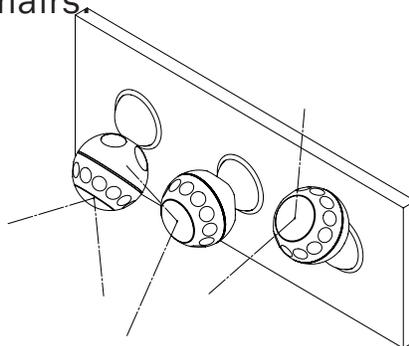

Figure 4 - Motion Detector Wall Mount Configurations
You can mount the Motion Detector on any wall with a central line-of-sight perspective of the area you wish to monitor. See Figure 4 to visualize the Motion Sensor's coverage area and its optimal positioning. It is best to mount the Motion Detector as high as possible to avoid limiting its effective range with obstacles like tables and chairs.
1. Find a good location (Fig 4) with adequate Z-Wave coverage to mount your Motion Sensor.
1. Find a good location (Fig 4) with adequate Z-Wave coverage to mount your Motion Detector.